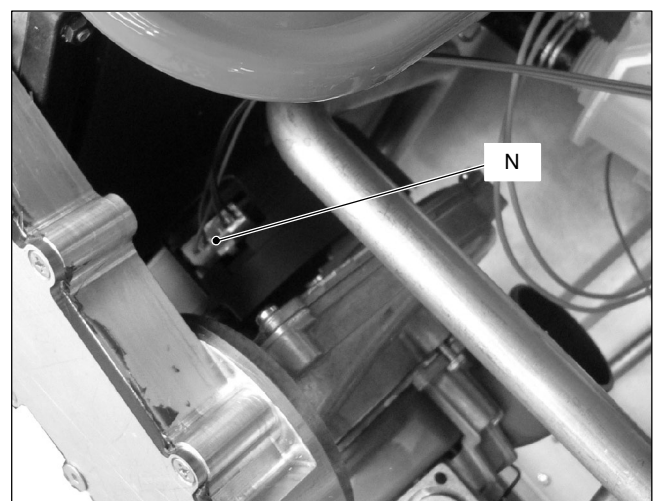

Fig. 5.3
- 13 Disconnect the fan connector *N* by pressing the plastic hook placed on the side of the connector (Fig. 5.3).